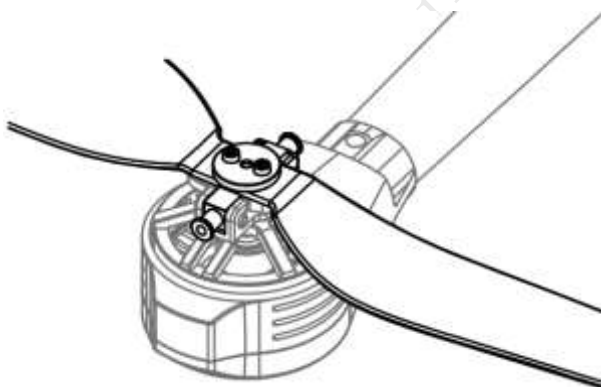

Figure 3-37
Step 2 Buckle the latch on the motor, as shown in Figure 3-37.